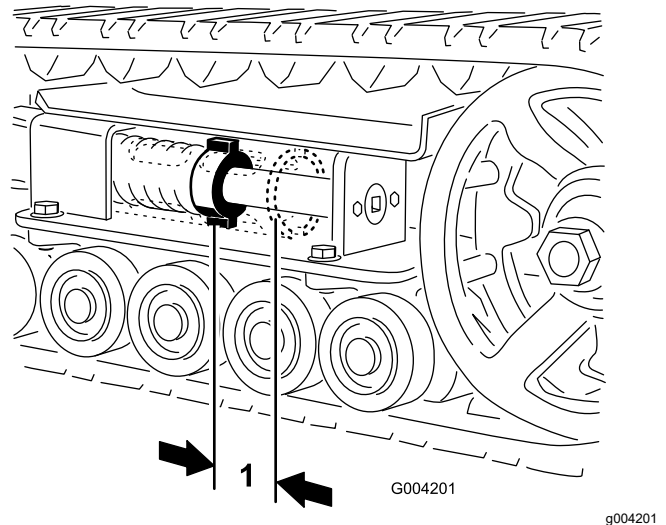

Figure 51
There should be 7 cm (2-3/4 inches) between the tension nut and the back of the tension tube (Figure 51). If not, adjust the track tension using the following procedure:
5. Using a 1/2-inch drive ratchet, turn the tensioning screw counterclockwise until the distance between the tension nut and the back of the tension tube (Figure 51) is 7 cm (2-3/4 inches).
12. Turn the tensioning screw counterclockwise until the distance between the tension nut and the back of the tension tube (Figure 51) is 7 cm (2-3/4 inches).
18. Turn the tensioning screw counterclockwise until the distance between the tension nut and the back of the tension tube (Figure 51) is 7 cm (2-3/4 inches).